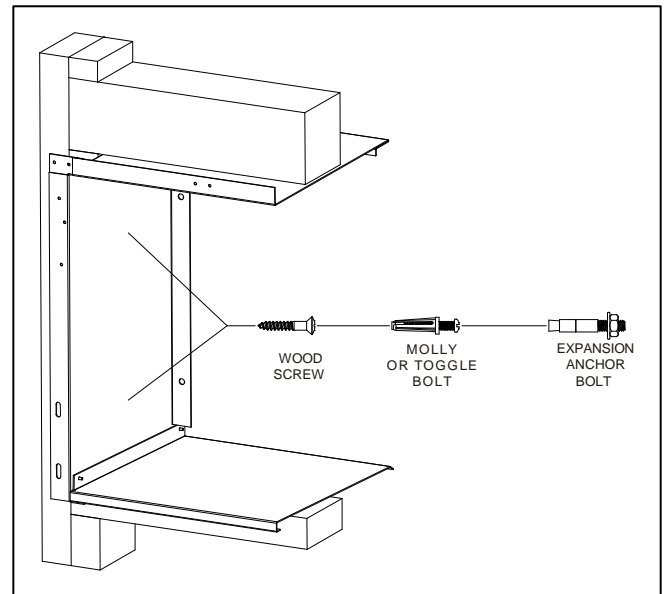

Figure 8. Wall Sleeve Anchors
4. Fasten the wall sleeve using appropriate anchoring hardware as shown in Figure 8.